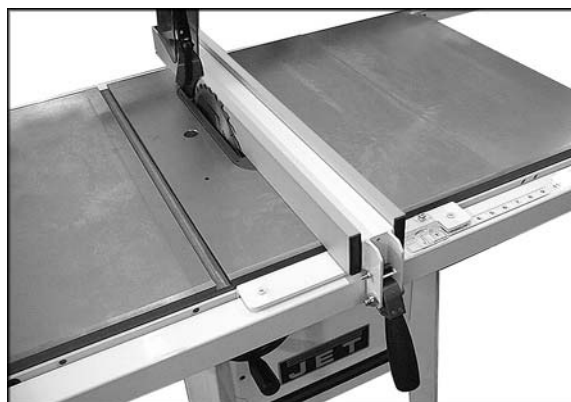

Figure 15
- Slide the fence until it just contacts the cutting tips of the blade (Figure 15). Do not force the fence into the blade.